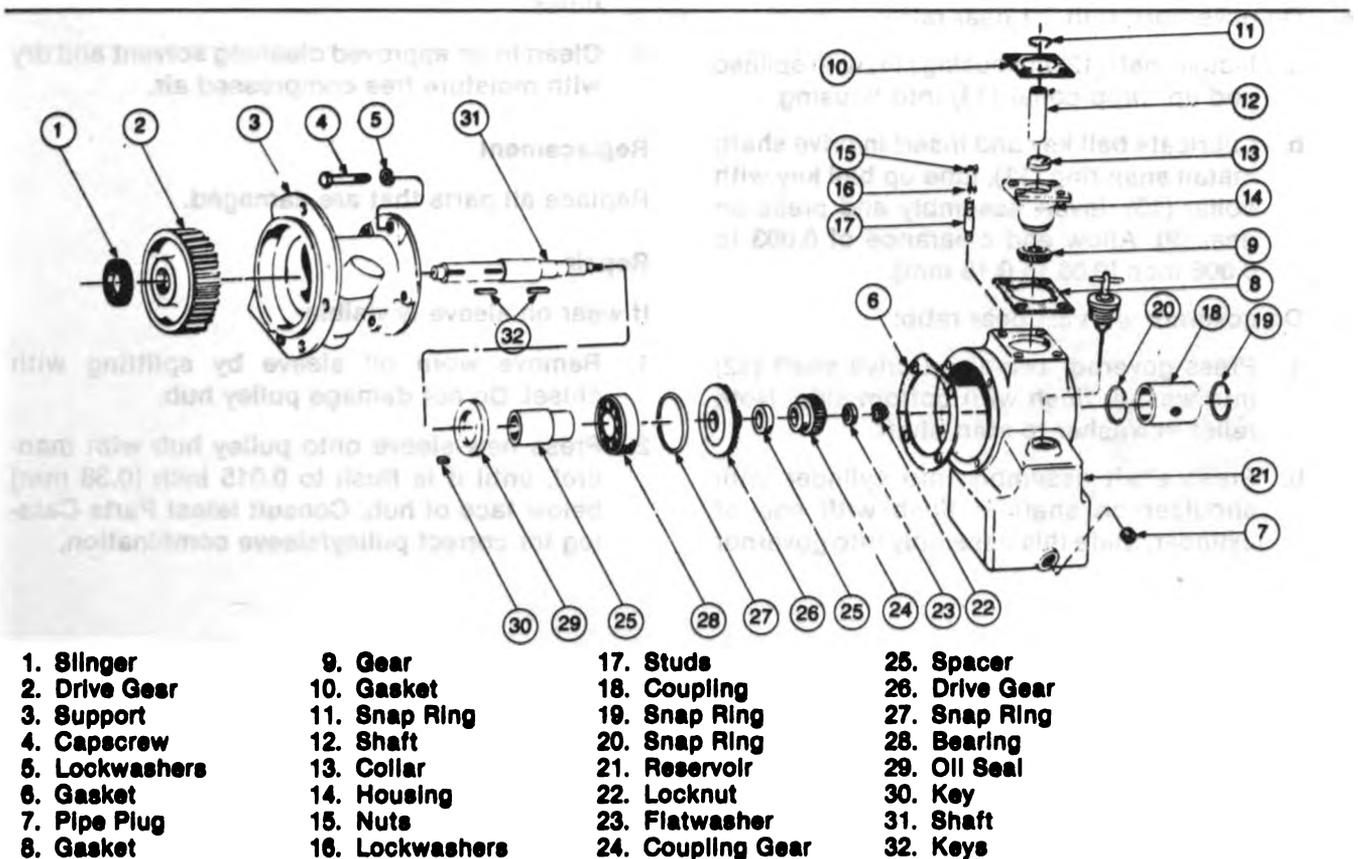

Fig. 9-3 (N10912). Fuel Pump, Hydraulic Governor Drive (Woodward Governor).
1. Remove the governor drive assembly, snap ring (11, Fig. 9-3), ball key and collar (13).
2. Press the shaft (12) opposite gear end to
1. Lubricate outside of oil seal (29, Fig. 9-3) and press into support from large end. Open end of seal must be down. Lubricate rear bearing (28) and press into support. Insert snap ring (27), flat side down.
2. Lubricate shaft (31) and place key (32) in shaft. Press shaft into flat side of gear (2) until shoulder seats on gear face.
3. Press small end of shaft assembly into large end of support. Press governor drive gear (26) onto shaft until it bottoms on bearing.
4. Insert key (30) and press on coupling (24). Shoulder of coupling goes against gear unless a spacer (25) is used. Install flatwasher (23) and shaft locknut (22).
5. Position reservoir (21) in vise with governor drive studs (17) up. Install dipstick, vent plug, weatherhead fitting and drain plug.
- a. Install shaft (12) in housing (14) with splined end up. Drop collar (13) into housing.
- b. Lubricate ball key and insert in drive shaft: install snap ring (11). Line up ball key with collar (13). Invert assembly and press on gear (9). Allow end clearance of 0.003 to 0.006 inch [0.08 to 0.15 mm].
- a. Press governor two-piece drive shaft (12) into washer flush with bottom side. Note relief in washer to start shaft.